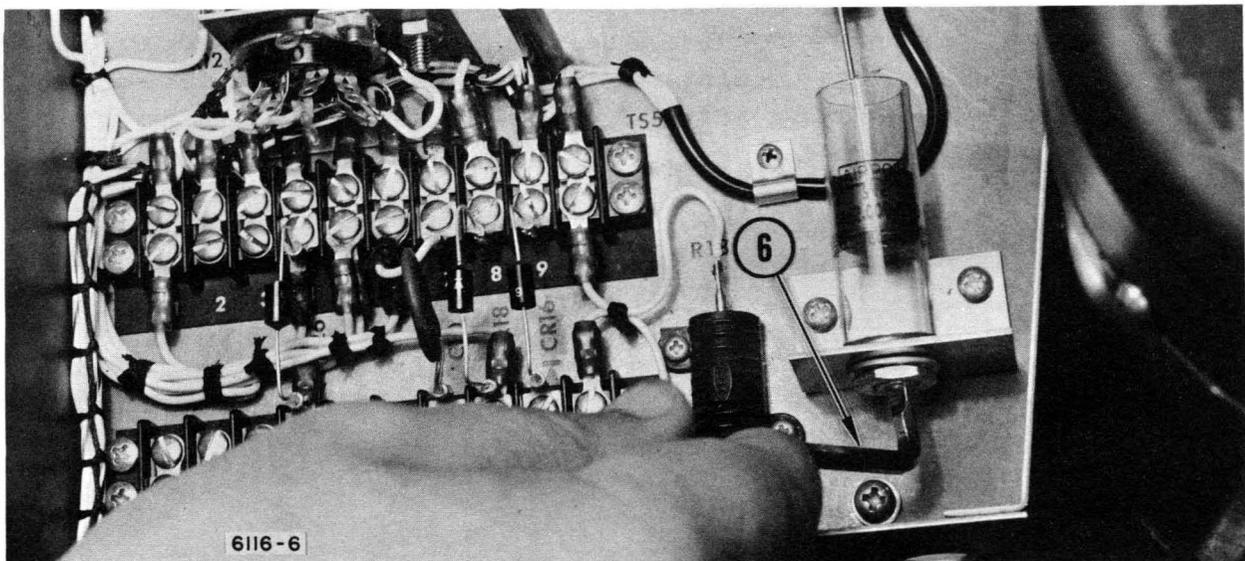

Figure 5-13. Adjusting Servo Dashpot.
Step 6: See Figure 5-13. Screw in dashpot adjusting screw clockwise to bottom.